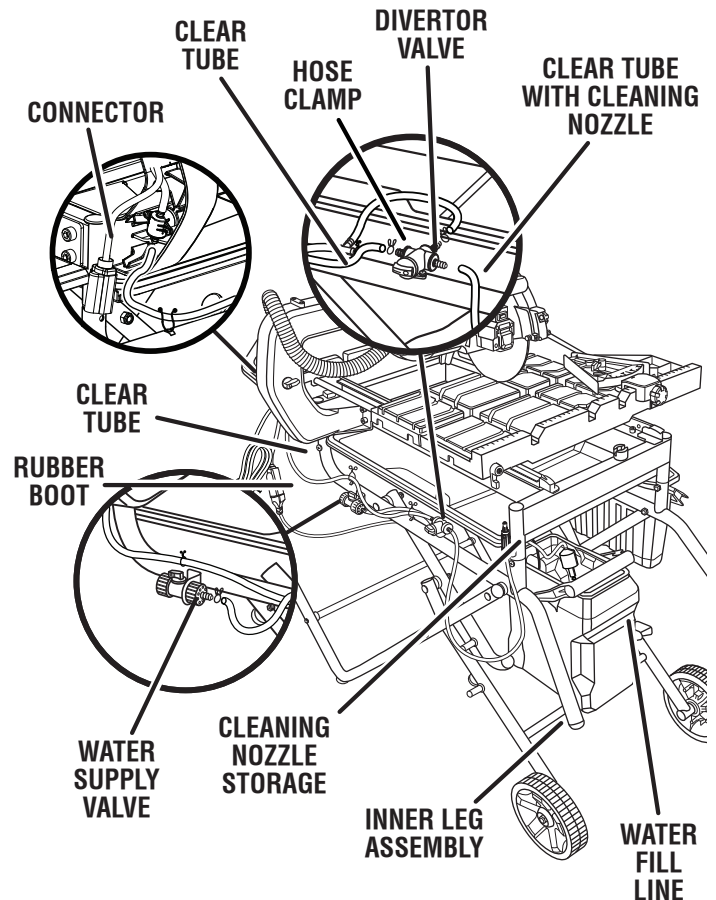

Fig. 11
See Figure 11.
- Push the short clear tube of the T-connector assembly over the connector on the back of the diverter valve (as shown in figure 11).